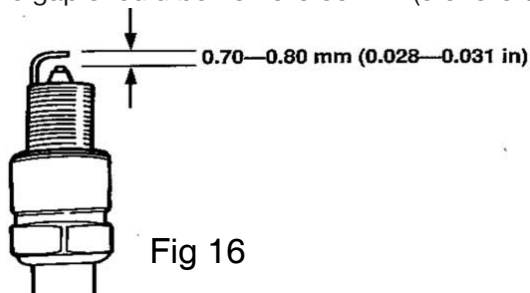

Fig 16
5. Measure the plug gap with a feeler gauge. (Correct as necessary by carefully bending the side electrode.) The gap should be : 0.70-0.80 mm (0.028-0.031 in) (Fig 16)